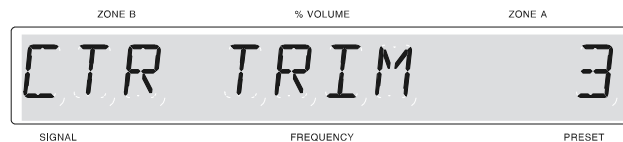

Figure 39
5. Press and release the TRIM pushbutton until CTR TRIM appears on the front panel display. Refer to figure 39.